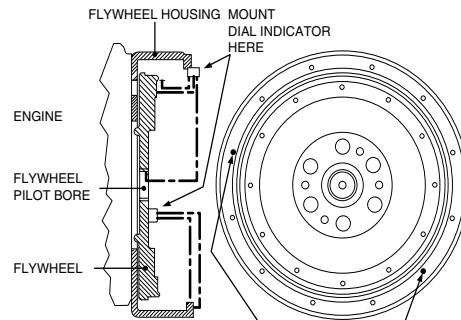

FIG. 1
2. Check engine flywheel & housing for conformance to standard SAE No. 3 per SAE J927 and J1033 tolerance specifications for pilot bore size, pilot bore runout and mounting face flatness. Measure and record engine crankshaft end play (Fig. 1).